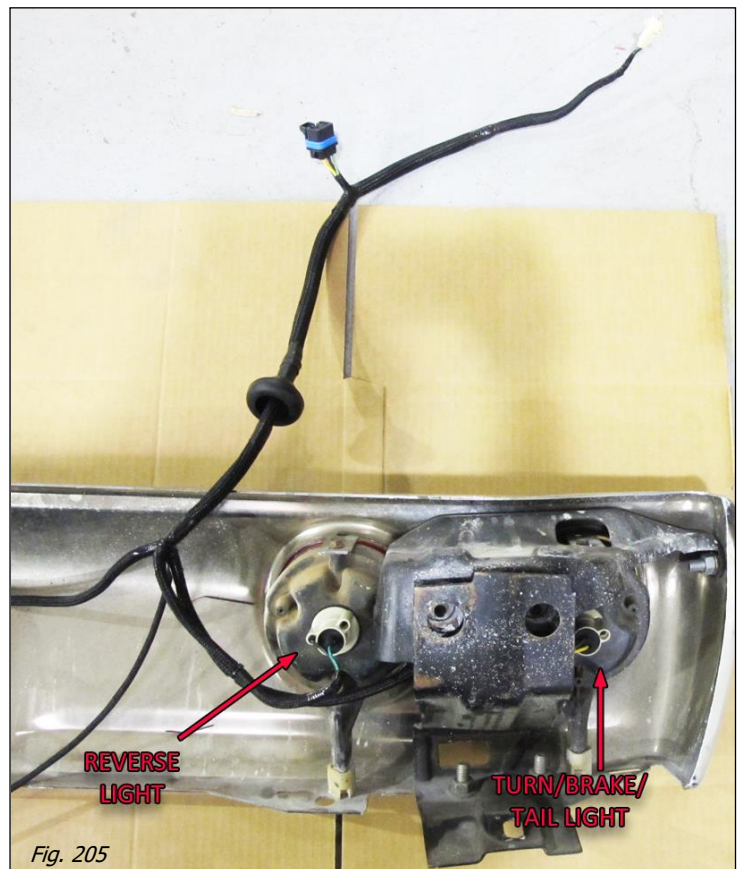

Fig. 205
- Paying attention to the keyway on the reverse light housing and the key on the reverse light socket, insert the socket into the light housing with the clear lens, and turn 1/4 turn (see Fig. 205; page 121).